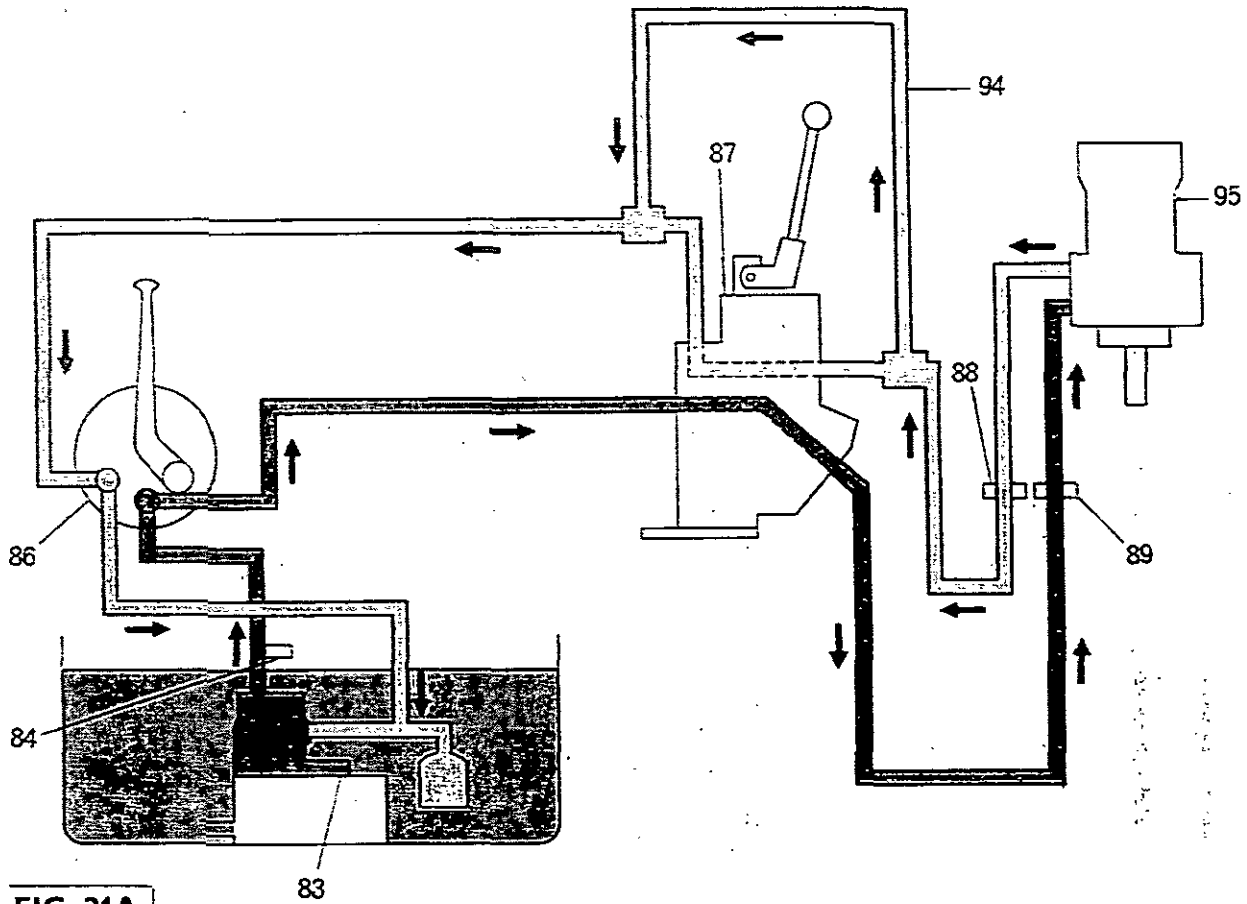

FIG. 21A
**Hydraulic Motor (Single-Acting Operation) (Lever Back)** Fig. 21A and 21B